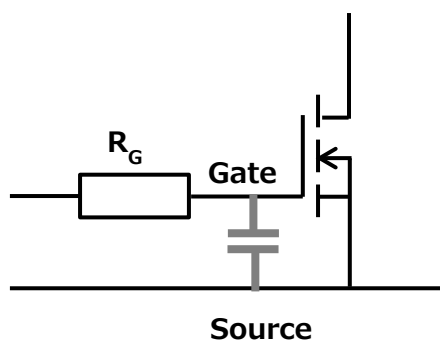

Figure 3.1 Adding a capacitor across the gate and source terminals
- **a capacitor between the gate and source terminals of the MOSFET in order to further reduce the C_{gd}/C_{gs} ratio. (Figure 3.1)**